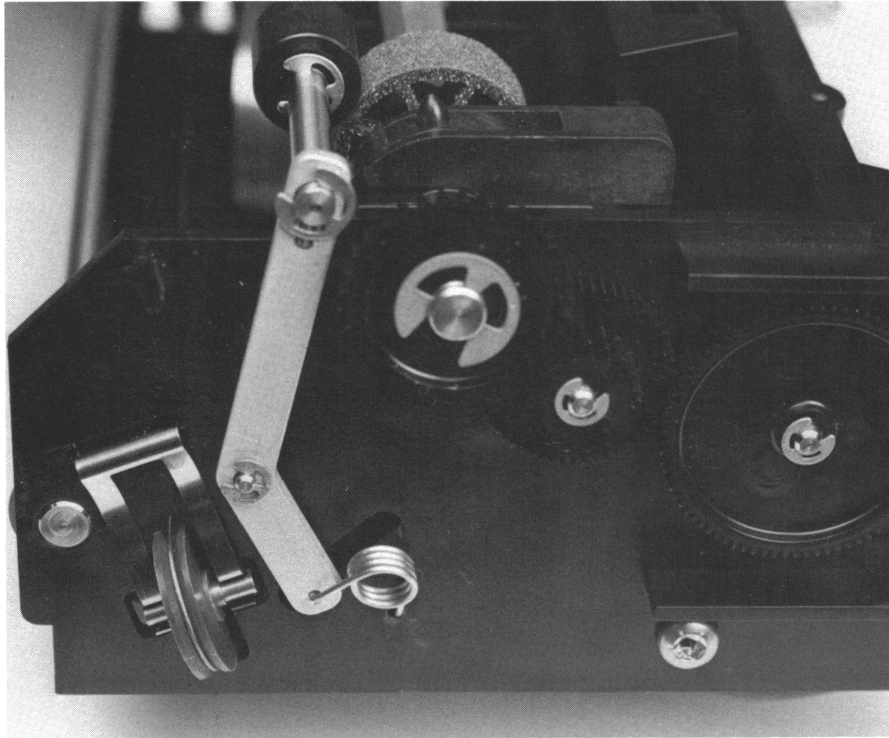

Figure 3-11, Correct Spring Position
6. When installing the right bail arm, refer to Figure 3-11 for proper placement. The left bail arm is positioned in a similar manner.
7. To install the right spring, place the short side of the spring in the bail arm hole and the longer side in the printer frame hole. If the two legs are properly seated, the spring can be pushed down easily to its normal position. See Figure 3-11. If it does not position easily, the legs are not set in correctly.